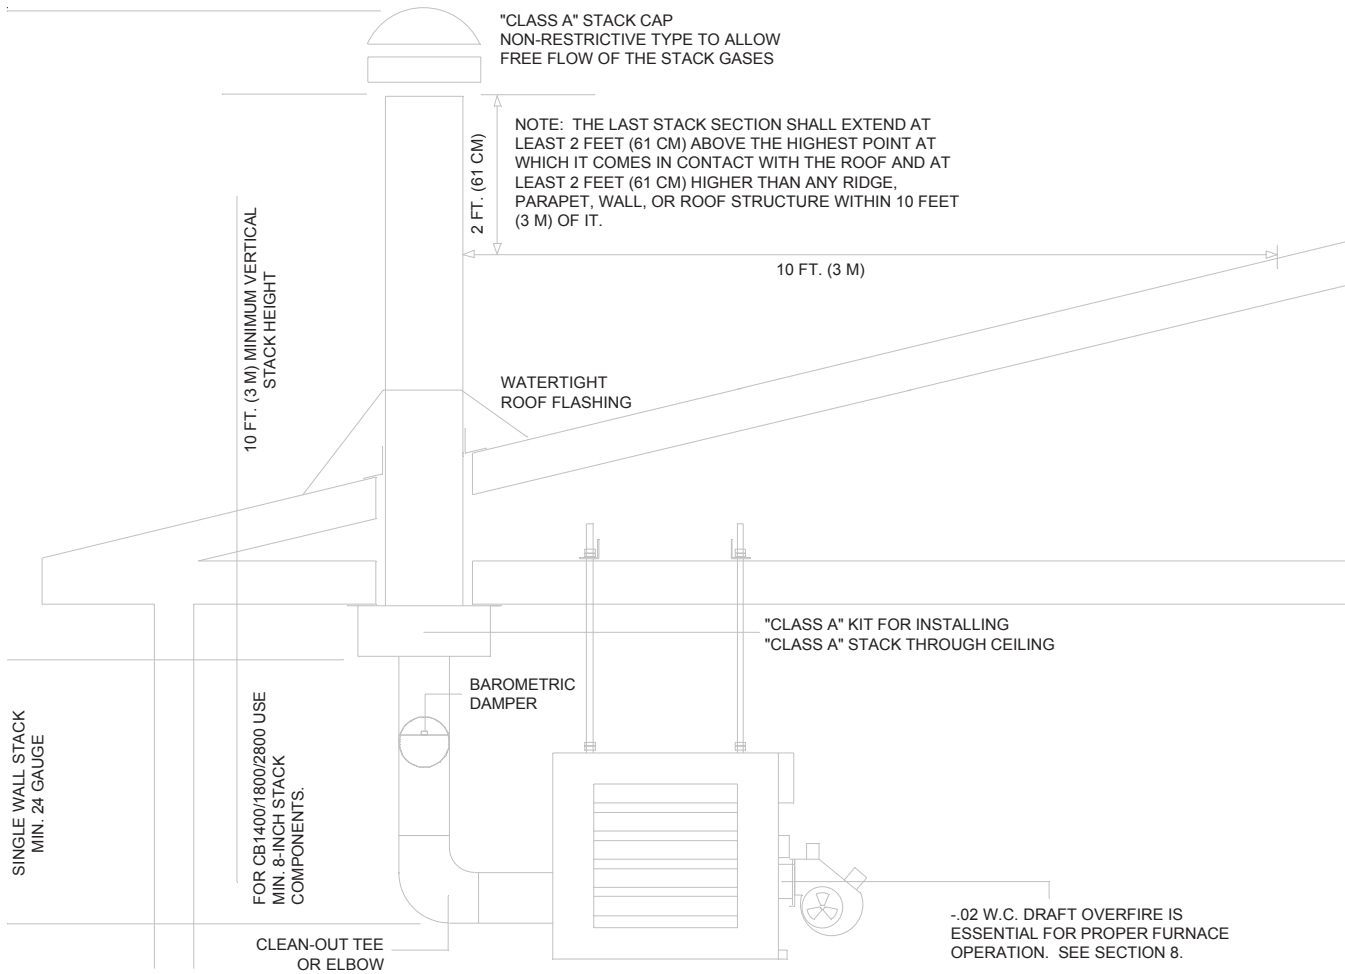

Figure 4I - Installation of "Class A" Stack Through Roof/Ceiling
Figures 4I and 4J illustrate these stack designs. Choose the stack design which is appropriate for your furnace installation and review all specifications provided in the Figure. When designing your stack, adhere to the following specifications:
1. Refer to Figure 4I/4J as needed.
1. Refer to Figure 4I or 4J as needed.
1. Refer to Figure 4I or 4J as needed. Your stack cap should be classified as: "Class A" non-restrictive, "fuel-oil type".